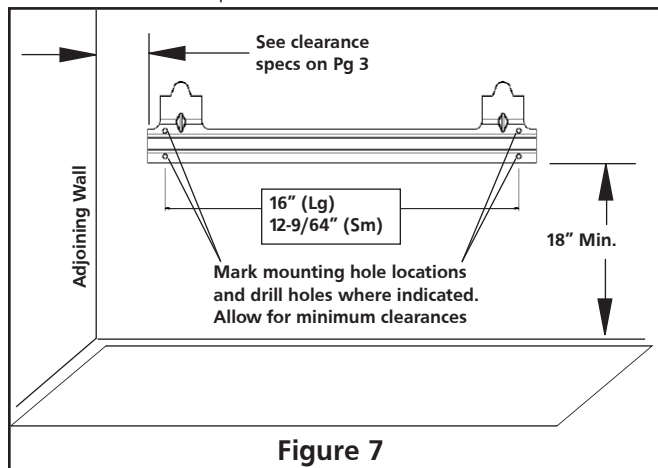

Figure 7
**WARNING:** Maintain minimum clearances shown in figure 7. If you can, provide greater clearances from the floor and joining wall.
2. Mark screw locations on wall (see figure 7).